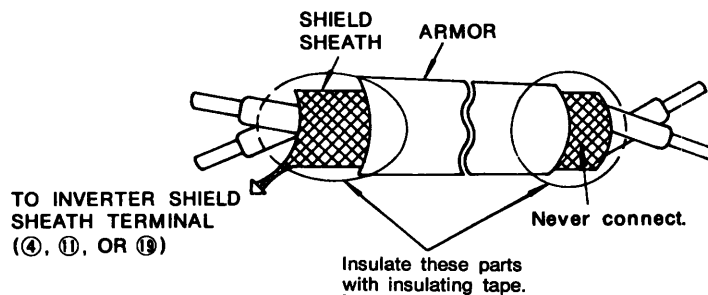

Fig. 8 Shielded Lead Termination
Use the twisted shielded or twisted-pair shielded lead for the control circuit line and connect the shield sheath to the any of the inverter terminals ④, ⑪, or ⑱. See Fig. 8.